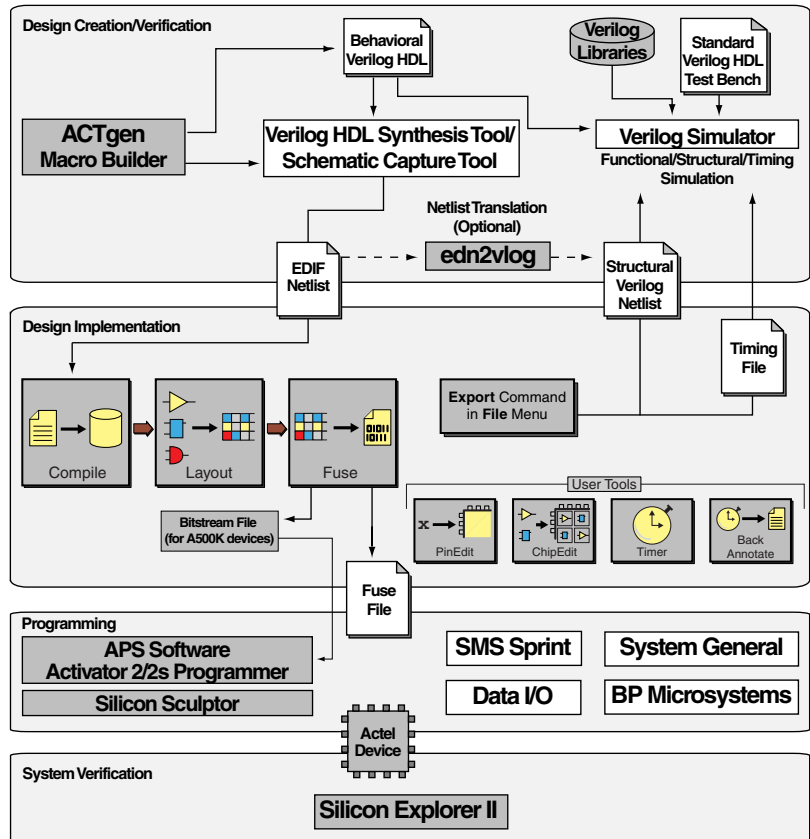

Figure 2-1. Actel-Verilog Design Flow
Figure 2-1 shows the design flow for an Actel device using CAE software, a Verilog simulation tool, and the Designer Series software1.
1. The grey boxes in Figure 2-1 denote Actel-specific utilities/tools.